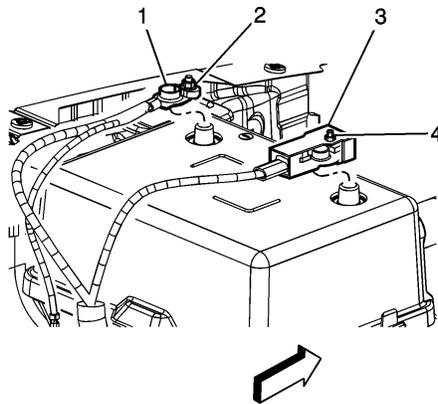

Fig. 1 Battery cable removal
4. Loosen battery ground cable nut (2), Fig. 1.
5. Disconnect battery ground cable (1) from battery, Fig. 1.
6. Open protective cover (3) to access battery positive cable terminal, Fig. 1.
7. Loosen battery positive cable nut (4), Fig. 1.
5. Connect battery positive cable to battery, Fig. 1. **Torque** battery cable nut to 80 inch lbs.
6. Close protective cover (3) over battery positive cable terminal, Fig. 1.
7. Connect battery ground cable (1) to battery, Fig. 1. **Torque** battery cable nut to 80 inch lbs.